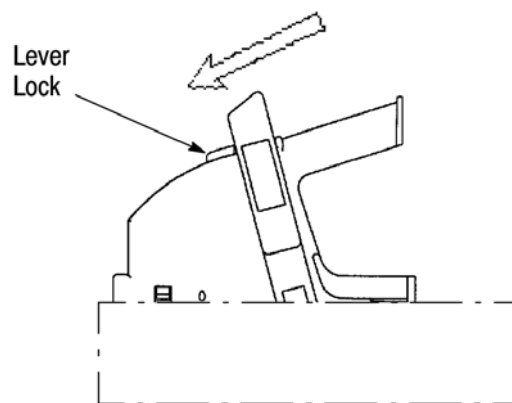

Figure 6
1. Depress the lever lock. See Figure 6.